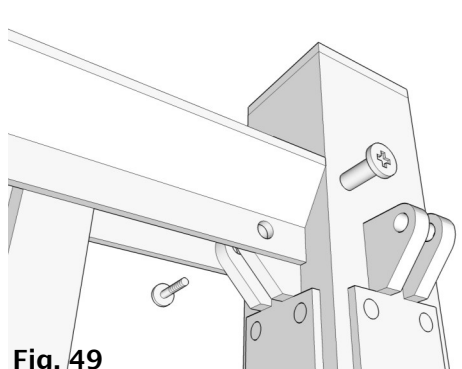

Fig. 49
23. Drill 7/32" diameter holes through the railing mounting hardware attached to the post, and insert Rail Fasteners through the holes in the Railing and post mounted hardware at the top of the Post (Fig. 49), and at the